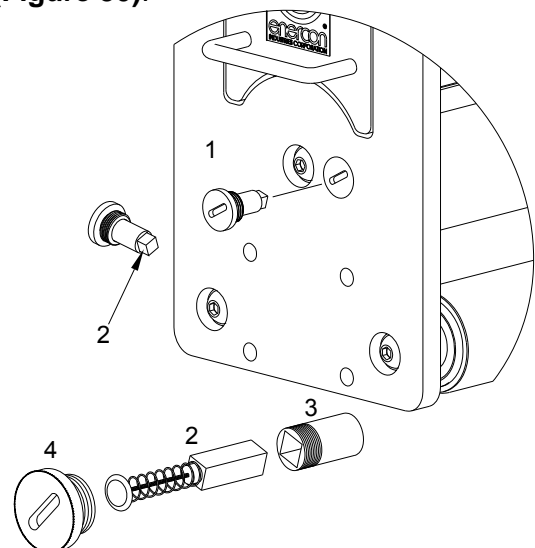

Figure 30
Remove the ground brush assembly by unscrewing it from the station frame (1) using a standard screwdriver and inspect the ground brush (2) for wear and damage to the spring. Reinstall the ground brush assembly if the brush is longer than 6.35mm (1/4") (Figure 30).